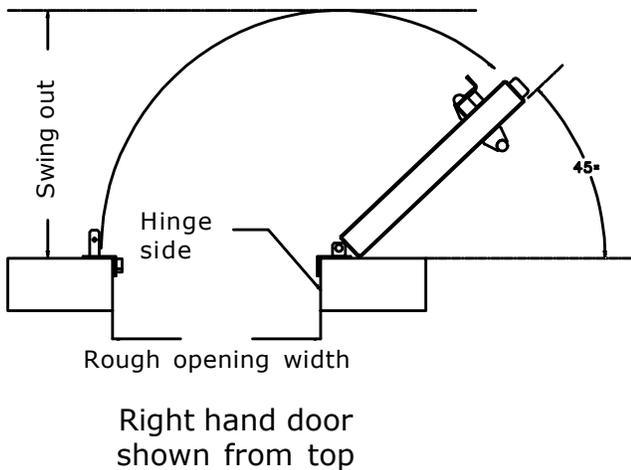

Figure 6A
**Please note:** Doors that have the normal 4-3/8" leaf thickness will have a swing out is that is 6" greater than the door width. Example: a 36 inch door width will have a swing out of 42 inches. See Figures 6A and 6B above.